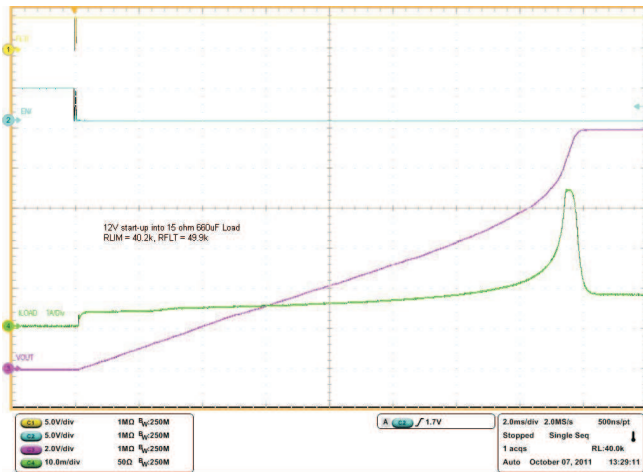
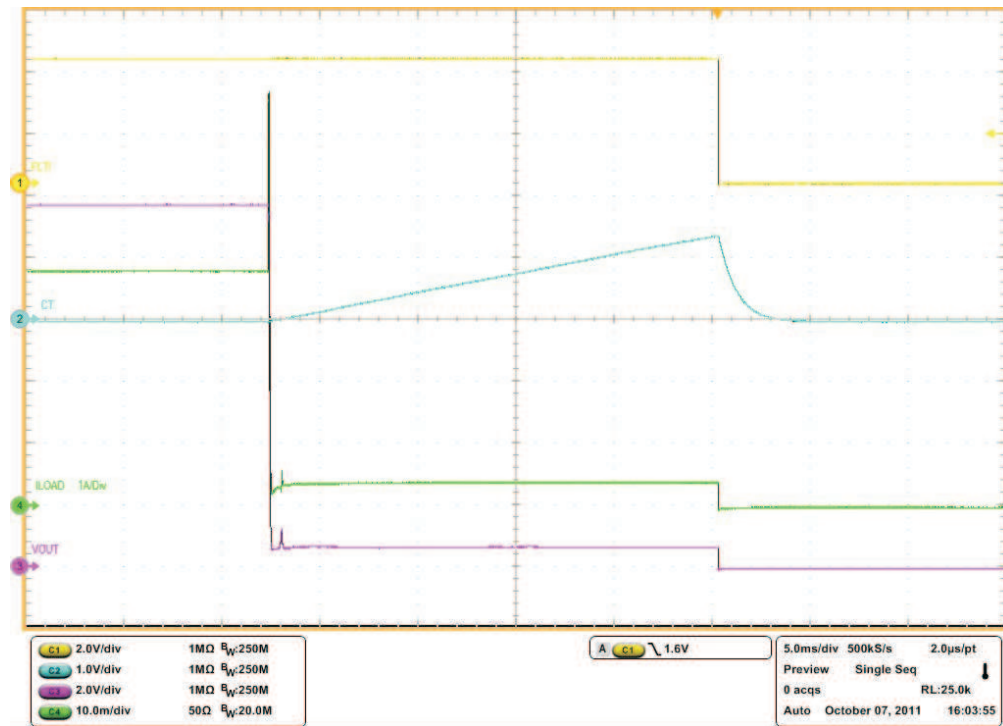

Figure 7. 12-V Startup into 15-Ω, 700-μF Load
Figure 17. Hard Overload, Load Stepped from 3.8 A to 7.1 A
- Changed Figure 7 through Figure 17. 8 - Changed Figure 7 through Figure 17. 9 - Changed Figure 7 through Figure 17. 10 - Changed Figure 7 through Figure 17. 11	8 9 10 11